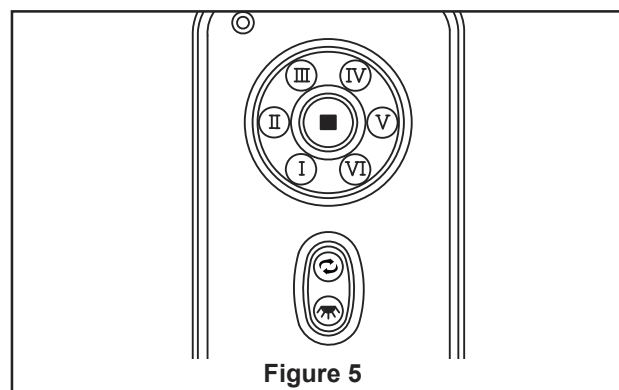

Figure 5
- ☐ 5. Secure the glass to light kit assembly by twisting in a clockwise direction. Do not over-tighten. (Figure 5)
- ☐ 7. Remote functions: (Figure 5)